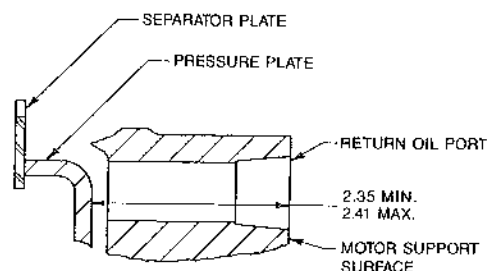

FIGURE 1
- B. Apply 500 PSI to the brake. Close shut-off valve and let stand for 30 seconds then open valve. Repeat three (3) times to purge air from cylinder.
(5) minutes. If there is any loss of pressure in five (5) minutes, the brake cylinder should be disassembled for inspection of the sealing surfaces and brake piston seals.
8. After the motor support is installed in the end bracket, the total brake plate stack up should be checked. This can be done by measuring the distance from the surface of the machined face around the drain port hole on the motor support to the back face of the pressure plate (fig. 1). This check can only be performed after all parts have been assembled in the winch. For optimum winch performance a measurement range of 2.41 inches max. to 2.35 inches min. is required. If the dimension exceeds 2.41 inches add one additional steel brake disc. If the dimension is below 2.35 inches then a steel brake disc must be removed. To assist in achieving the correct brake pack thickness, a new 0.048 inch thick steel brake disc 27838 is now available. If a 27838 disc is used it should be installed on top of the brake pack closest to the motor support.